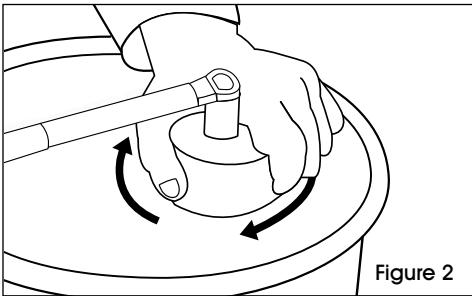

Figure 2
2. Continue to rotate the screw cap clockwise until it cannot be tightened any further by hand. Using a torque wrench and a 2 1/8" fitting for the cap, tighten it to at least 80 inch-pounds. (See Figure 2)